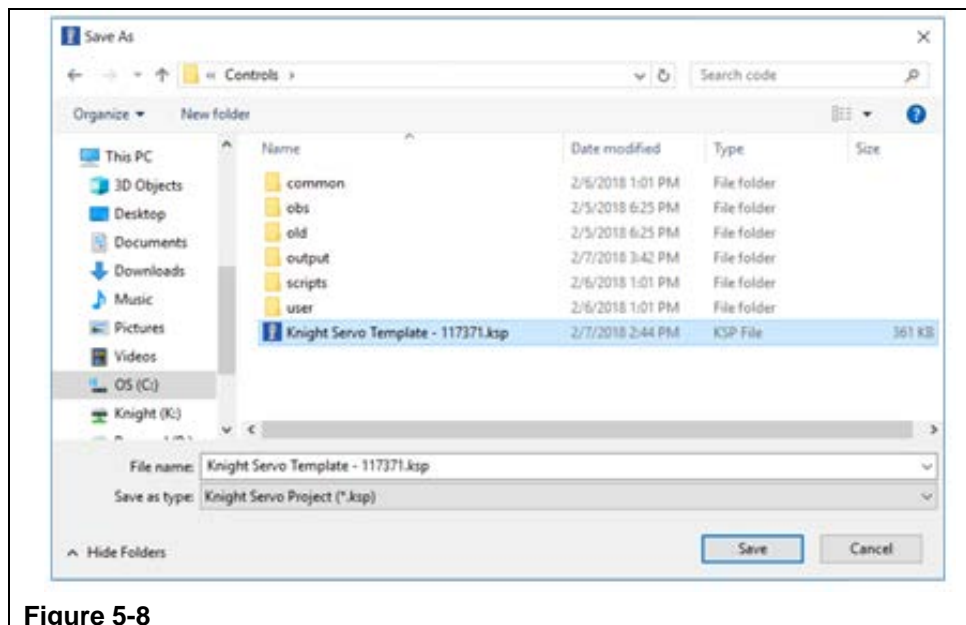

Figure 5-8
- Step 2. Select the folder where to save the backup copy of the file. Ensure the Knight Work Order number is included in the filename. (Refer to Figure 5-8)